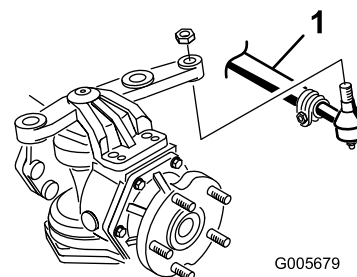

Figure 4
1. Remove cotter pins and castle nuts from ball joint ends of tie rod. Insert ball joint ends into rear hole of each axle steering arm. Insert ball joints from bottom of each steering arm (Figure 4).